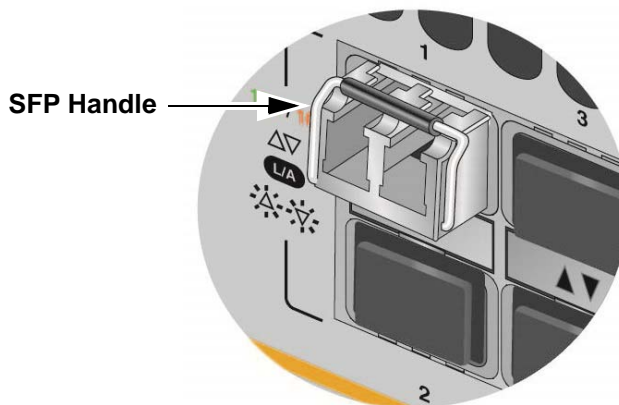

Figure 58. Positioning the SFP or SFP+ Handle in the Upright Position
6. Verify the position of the handle on the transceiver. If the transceiver is in a top slot, the handle should be in the upright position, as shown in Figure 58. If the transceiver is in a bottom slot, the handle should be in the down position.